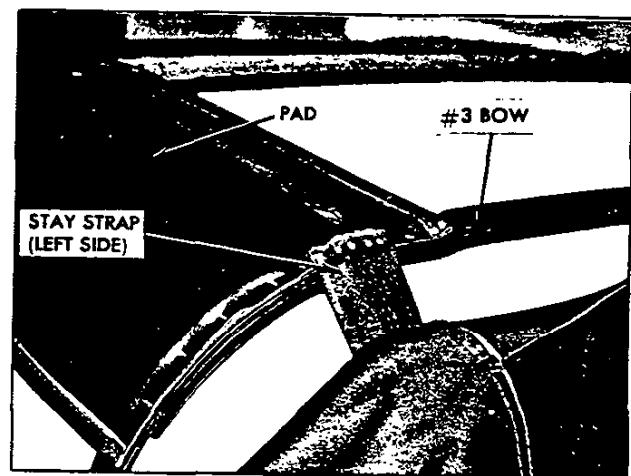

Fig. 75-Installing Stay Strap
5. Lock down rear bow in desired "top up" position. Pull up stay straps and staple or tack to #3 bow (fig. 75).